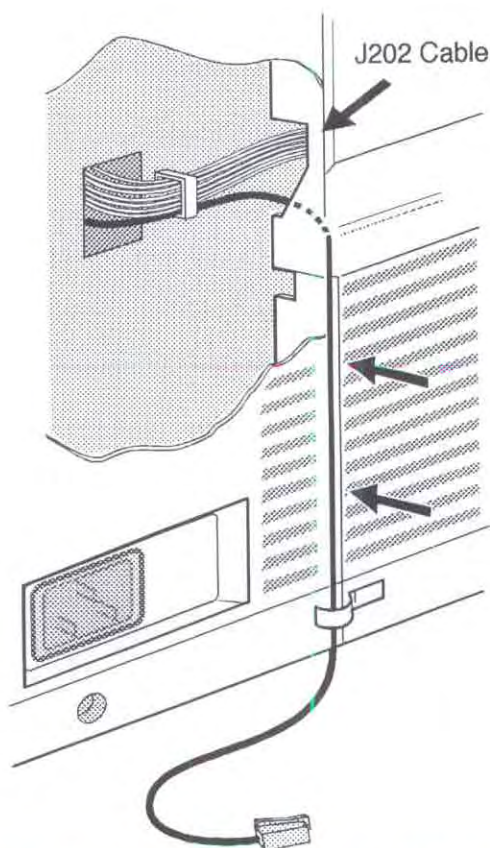

Figure 1-13. Routing and Securing the Stacker Interface Cable
7. Route the stacker interface cable's pigtail through the same chassis frame cutout where the J202 cable is led. Feed the stacker interface cable through the cable harness which holds the J202 cable, as shown in Figure 1-13.
8. Next, feed the interface cable through the diagonal notch on the side of the right rear cover, as you reinstall the cover (see Figure 1-13). Route the cable outside and down, pressing it into the groove between the rear covers. Fix it to this position with a self-adhesive cable holder.